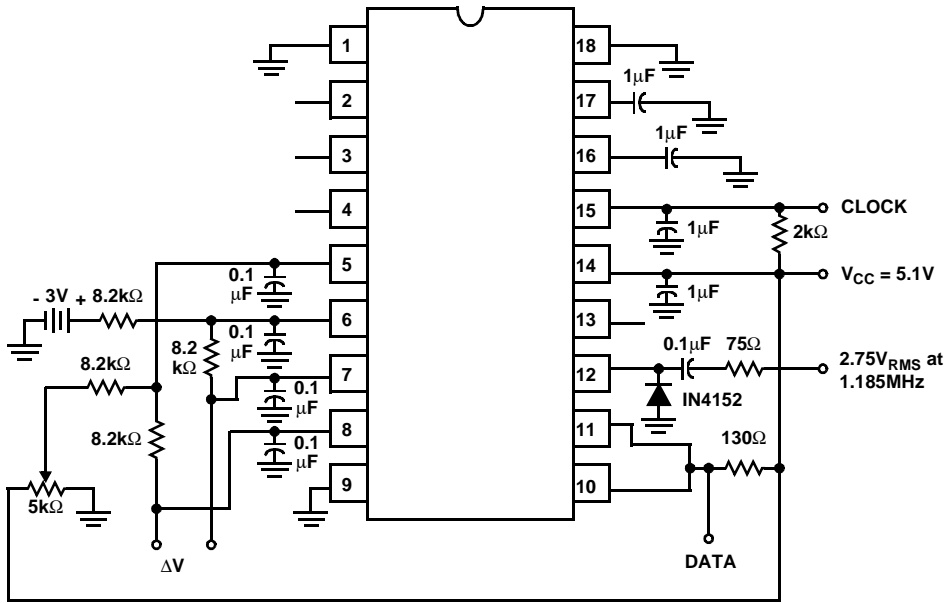

FIGURE 6. TEST CIRCUIT FOR THRESHOLD VOLTAGE MEASUREMENT
5. Adjust potentiometer for  $\Delta V = 0\text{V}$  (See Figure 6). Then slowly increase  $\Delta V$  in the positive direction until pulses are observed at the DATA terminal.
6. Continue increasing  $\Delta V$  until the DC level at the clock terminal drops to 4V (See Figure 6).
7. Continue increasing  $\Delta V$  until the ALBO terminal rises to 1V (See Figure 6).